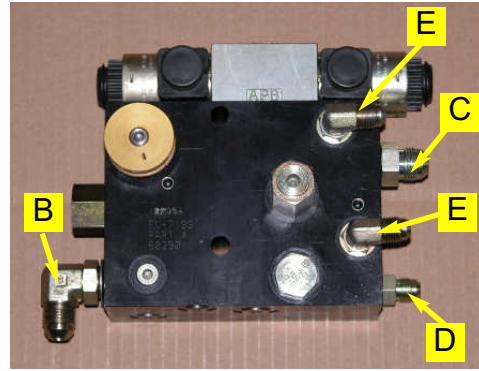

Figure 1. Prepared Automated Steering Block.
- b. Install the elbow adapters (E) into the A and B ports and the larger elbow adapter (B) into the P port of the Automated Steering Block. (Figure 1.)
- c. Install the straight adapter (D) into the T port and the larger straight adapter (C) into the EF port of the Automated Steering Block. (Figure 1.)